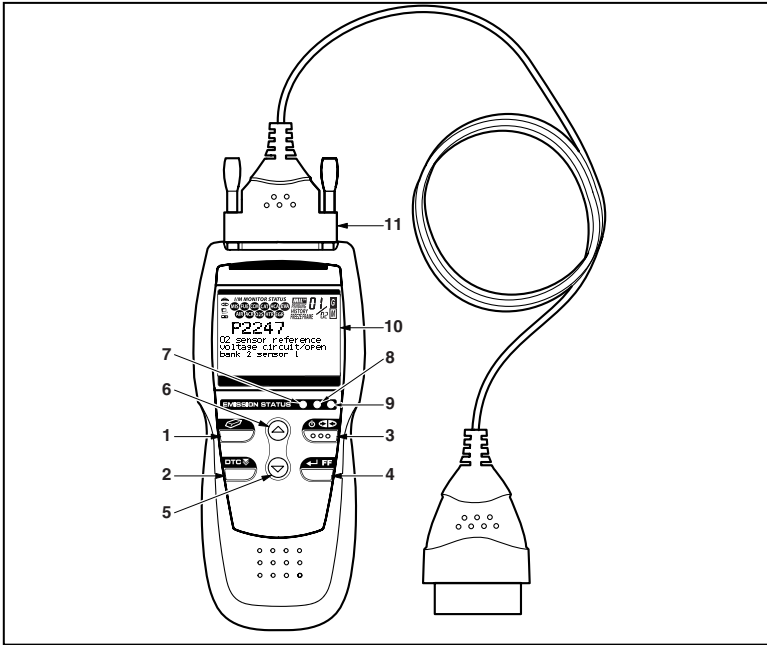

Figure 1. Controls and Indicators
See Figure 1 for the locations of items 1 through 11, below.